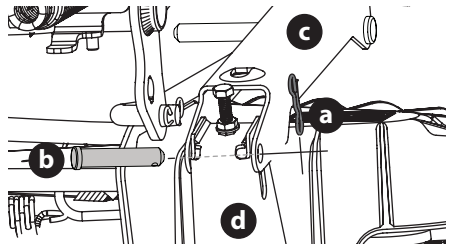

Fig. 44
- a. Remove the two bow-tie pins (a) from the clevis pins (b) that secure the lift link brackets (c) to the rear deck lift brackets (d) on the deck. Remove the clevis pins (b) (Fig. 44).